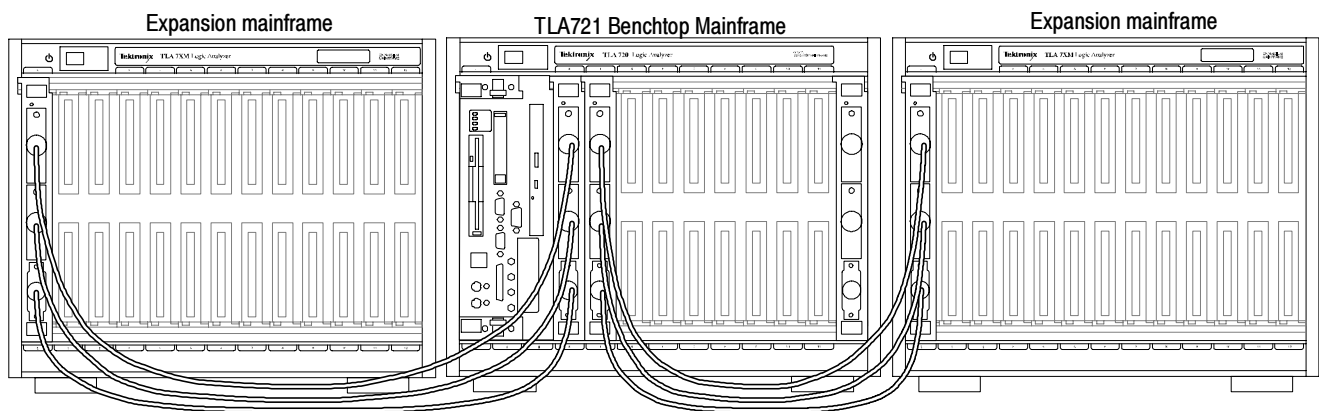
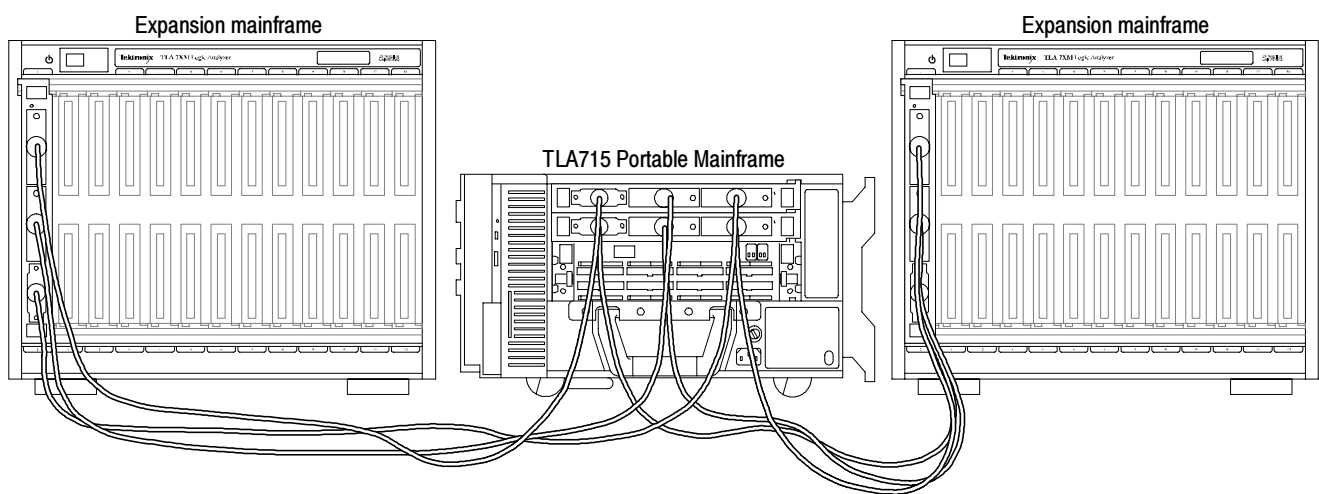

Figure 2: TLA721 Benchtop Mainframe with two TLA7XM Expansion Mainframes
Figure 3: TLA715 Portable Mainframe with two TLA7XM Expansion Mainframes
If you are installing two expansion mainframes, consider installing the two expansion modules next to the benchtop controller module to maximize the number of open slots as shown in Figure 2 on page 4.
If you have a TLA715 Portable Mainframe, install the expansion module in any slot. If you install one or two expansion mainframes, you can install the expansion module in slot 1 as shown in Figure 3 on page 4.
5. For the setup in Figure 2 or Figure 3, place the EXPANSION 1 label in the outlined area on the upper right side of the expansion mainframe to the left of the TLA721 Benchtop Mainframe or TLA715 Portable Mainframe. Place the EXPANSION 2 label in the outlined area on the upper right side of the expansion mainframe to the right of the TLA721 Benchtop Mainframe or TLA715 Portable Mainframe.